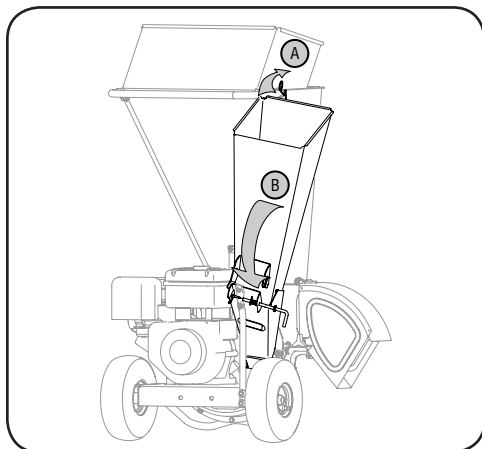

Figure 3-1
1. Pull the spring latch upward. See A in Figure 3-1.
2. Gently pivot the chipper chute down until it clicks into the lock rod. See B in Figure 3-1.